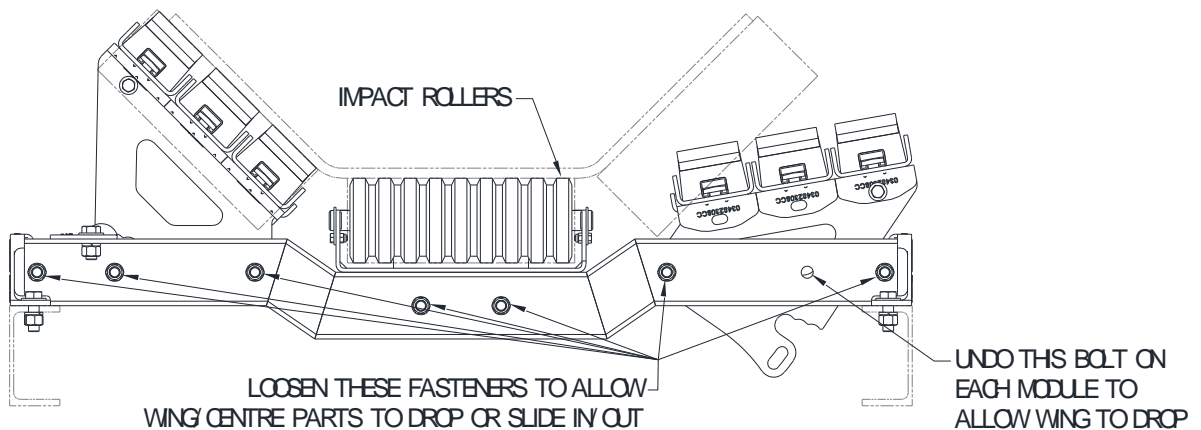

Figure 3 – Lowering Down Wing Sets
- Step 7. Having determined the position of the first impact cradle, disassemble one cradle for installation. This involves removal of the outer wing bolts attaching wing part to the base (two per module) and removing the wing lock parts supporting the wings from both sides (two per module). This allows the wing sets to flip down on each side (Fig 3).